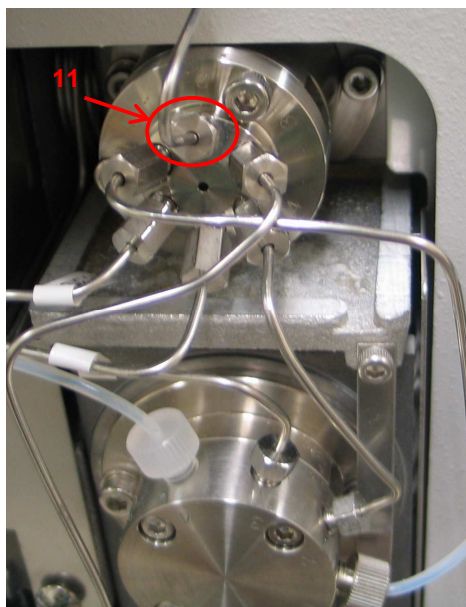
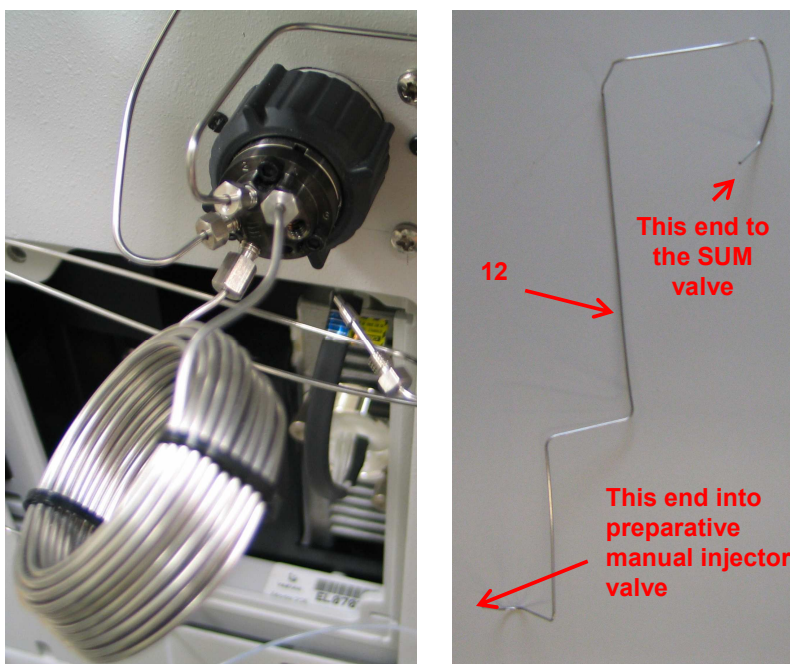

Figure 14: Position 2 of the Autosampler valve
Figure 15: Tubing connecting the preparative manual injector in position 2 is connected to the 6 port valve in the scale up module.
16. Connect the tubing that is now connected to position 3 of the preparative manual injector valve to position 2 (11) in the 6 port autosampler valve as shown in *Figure 14* using the a nut and ferrule (Nut *Item 5* and Ferrule *Item 6*). You will first have to remove the existing tubing in the 6 port valve.
17. Next connect the piece of tubing that connects the preparative manual injection valve position 2 to position 6 on the 6 port column selection valve on the scale up module (SUM). Connect the piece of tubing shown in *Figure 15* (12) to position 2 (11) of the preparative manual injector valve (*Figure 14*).